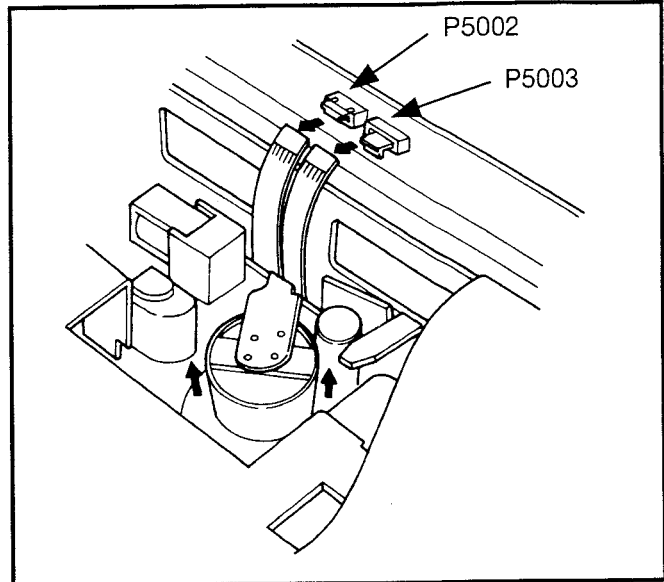

Fig. 6-1-1
3. Disconnect the connector P5002 and P5003 for each VTR on the RF AMP P.C.Board. And remove the screw which is fixed with the flexible cable as shown in Figure 6-1-1.